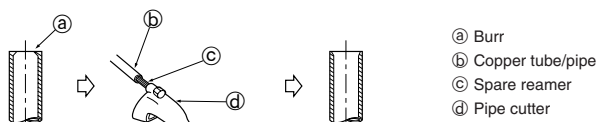

Fig. 5-4
5.2.2. Burrs removal (Fig. 5-4)